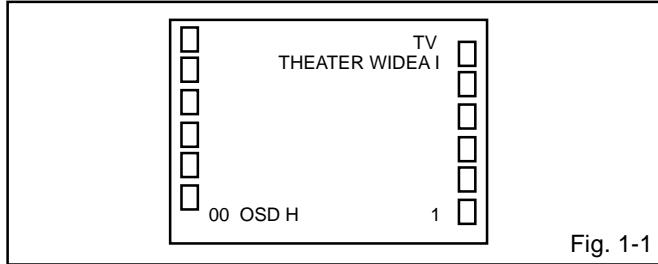

Fig. 1-1
1. In the condition of NO indication on the screen. Press the VOL. DOWN button on the set and the Channel button (9) on the remote control for more than 2 seconds to appear the adjustment mode on the screen as shown in Fig. 1-1.
4. Activate the adjustment mode display of Fig. 1-1 and press the channel button (01) on the remote control to select "CUT OFF".
4. Activate the adjustment mode display of Fig. 1-1 and press the channel button (24) on the remote control to select "R.BIAS".
6. Adjust the VOL. UP/DOWN button on the remote control to whiten the R.BIAS(C), G.BIAS(C), B.BIAS(C), R/G.DRV(C), B/R.DRV(C), R.BIAS(W), G.BIAS(W), B.BIAS(W), R/G.DRV(W) and B/R.DRV(W)" at each step tone sections equally.
3. Activate the adjustment mode display of **Fig. 1-1** and press the channel button **(00)** on the remote control to select "OSD H".
6. Activate the adjustment mode display of **Fig. 1-1** and press the channel button **(02)** on the remote control to select "H.POSI".
9. Activate the adjustment mode display of **Fig. 1-1** and press the channel button **(04)** on the remote control to select "H. SIZE".